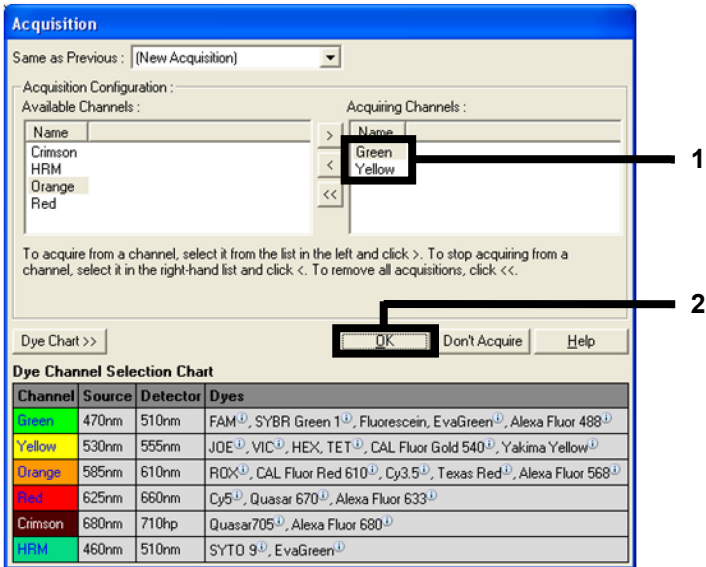

Figure 27. Acquiring at cycling step of 60°C (1 = Selected channels; 2 = "OK" button).
10. Set Green and Yellow as acquiring channels by selecting the ">" button to transfer these channels from the "Available Channels" list. Click "OK" (Figure 27).